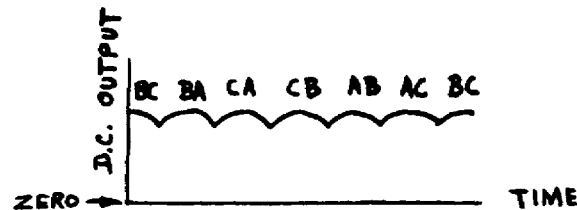

Figure 34. Three-phase, full-wave rectifier output voltage.
h. The voltage obtained from the stator-rectifier combination, when connected to a battery, is not perfectly "flat" but is so smooth that for all practical purposes the output may be considered a nonvarying DC voltage. The voltage is obtained from the phase voltage curves (fig 34).